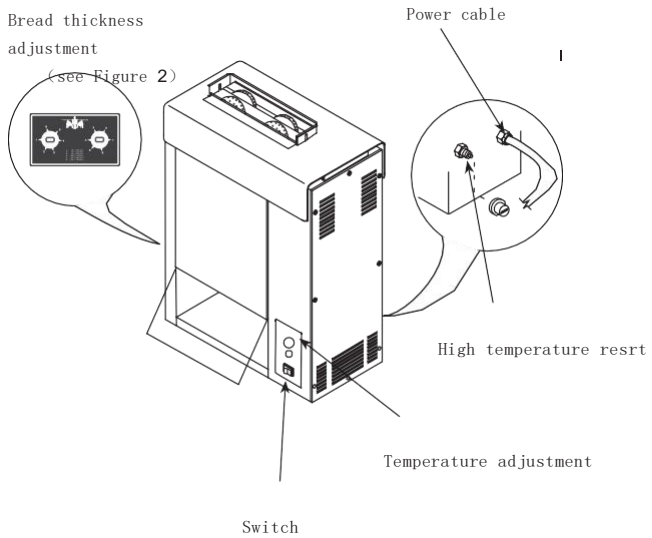

Figure1
2、 Turn on the switch (Figure 1). Turn the temperature knob to turn on the heating lamp, and toast the bread when the heating lamp goes out.
- 3、Place the upper and lower layers in the groove (Figure 1) with the opposite sides.